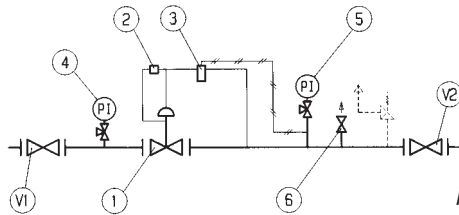

Fig. 20
5.3 MESSA IN SERVIZIO DEL REGOLATORE (FIG. 20)
5.3 COMMISSIONING THE REGULATOR (FIG. 20)
5.3 INBETRIEBNAHME DES REGLERS (FIG. 20)
5.3 MISE EN SERVICE DU DÉTENDEUR (FIG. 20)
5.3 PUESTA EN SERVICIO DEL REGULADOR (FIG. 20)
5.3 ATIVAÇÃO DO REGULADOR (FIG. 20)